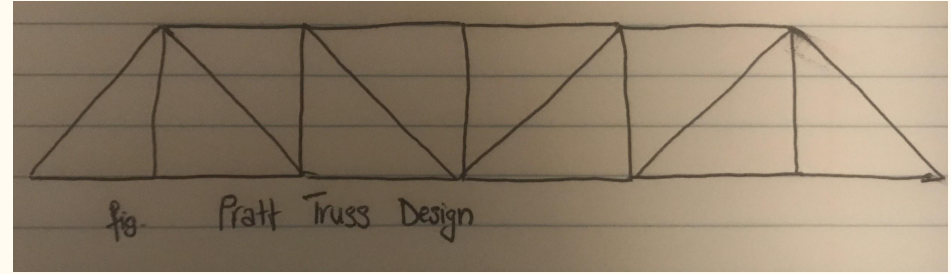

Fig 6 Shows the logbook sketch prior to going to the lab
- Truss design was sketched in logbook first (see fig 6)